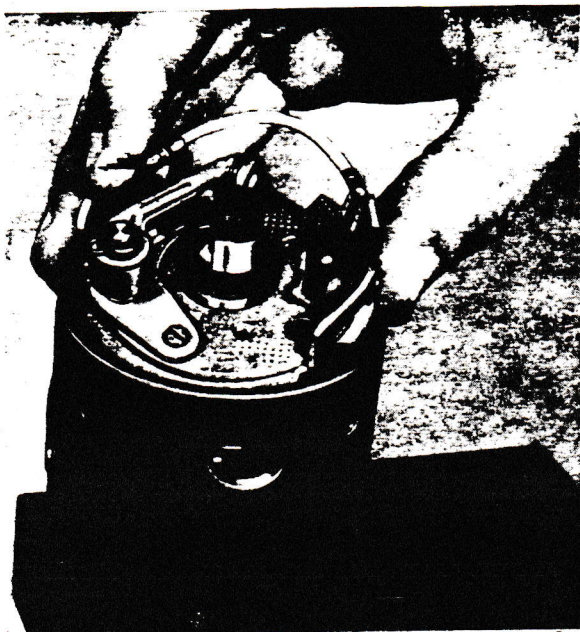

Fig. 73. Fitting the breaker plate
3. Lubricate the distributor shaft and place it in the distributor housing. Check that the axial adjusting washers are positioned correctly. The fibre washers should contact the inside of the distributor housing. The steel washers should contact the flange. Fit the breaker plate and distributor cap catch springs, see Fig. 73.